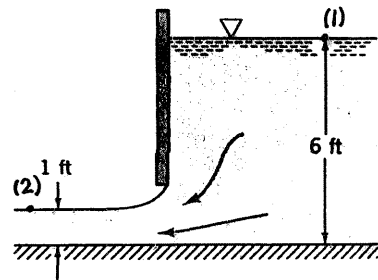

FIGURE P3.93
3.93 Water flows under the sluice gate shown in Fig. P3.93. Determine the flowrate if the gate is 4.6 ft wide.